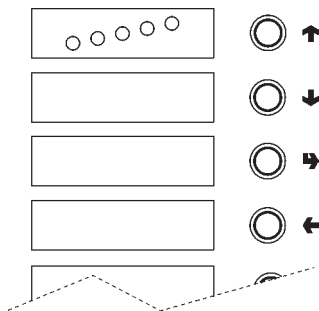

Fig. 21
- External direct selection push-button panel which takes on the following functions when in “Filler” and “Technician” mode (see Fig. 21):